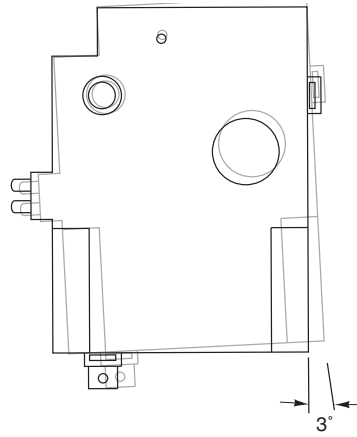

Figure-6 CCW Mounting.
6. Rotate controller Clockwise (CW) about three degrees off centerline of VAV terminal and tighten output shaft set screws to 60-70 in-lb (6.8-7.9 N-m). See Figure-6.